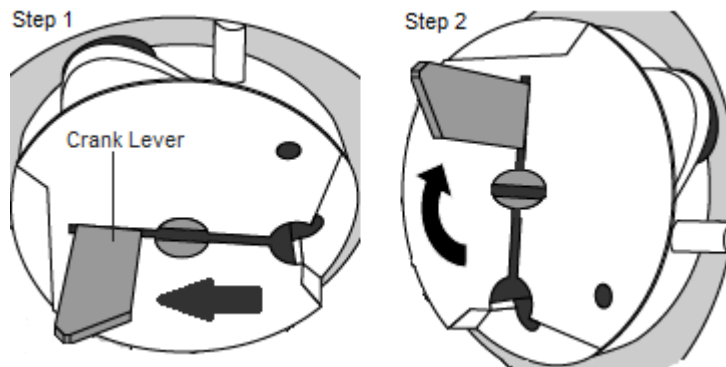

Figure 90 – Blood Pump Rotor Removal
2. Grasp the crank lever (Figure 90 Step 1) and pull it out until it stops.